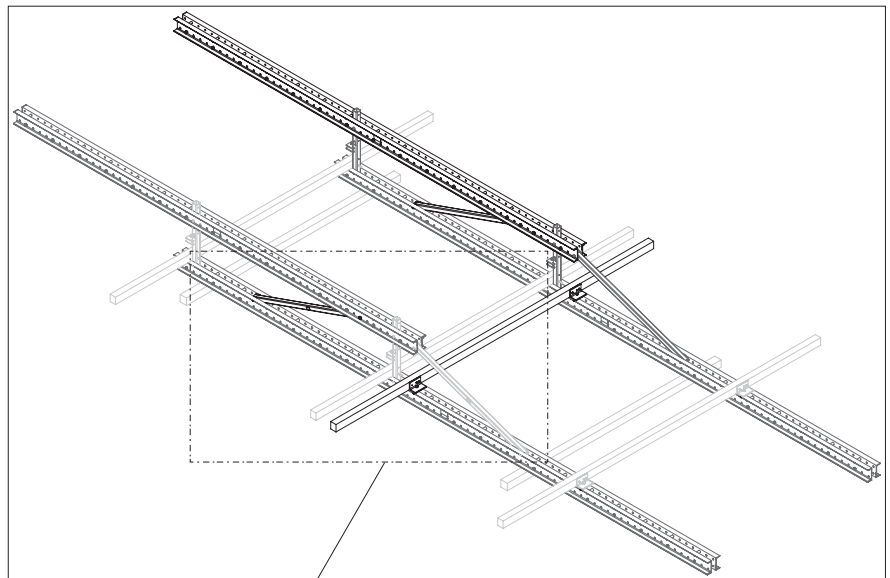

Fig. C1.09
- Bracket framework variant 2 has now been mounted. (Fig. C1.09)